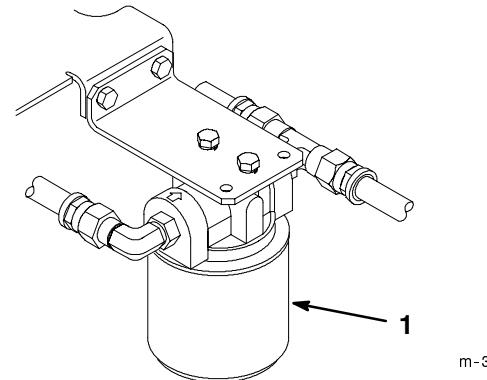

Figure 41
3. Place drain pan under filter, remove the old filter and wipe the filter adapter gasket surface clean (Fig. 41).